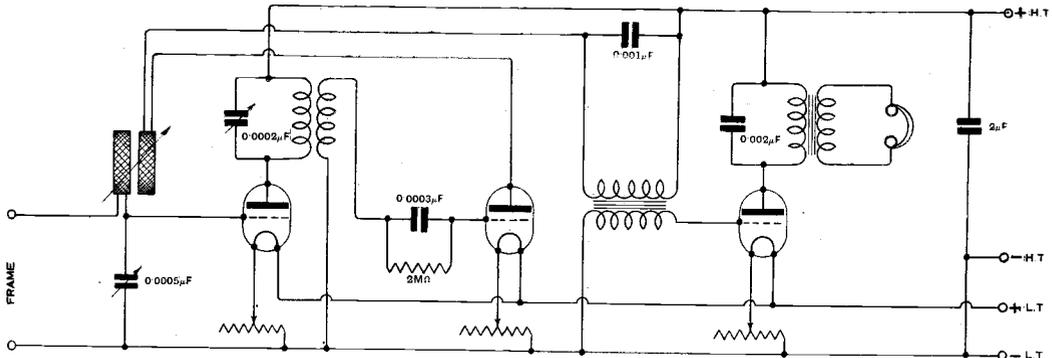

Fig. 2. "X.Y.Z." (Gosport). Connections of a receiver with H.F., rectifier and note magnifier.
(1) The diagram is not correct. (2) Tuning coils are essential in this receiver. (3) The correct diagram of this receiver is given in Fig. 2. For the reception of British broadcast transmissions, basket coils wound on a former 1½" in diameter, and having the following numbers of turns, should be constructed. Aerial tuning inductance, 40 turns; reaction inductance, 50 turns.